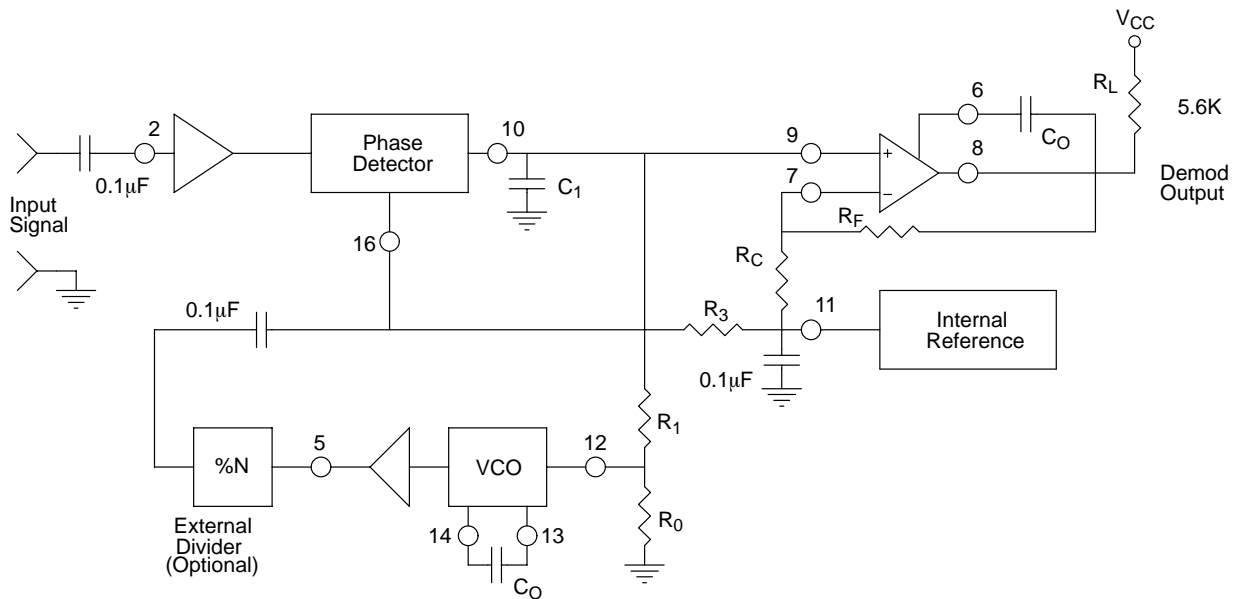
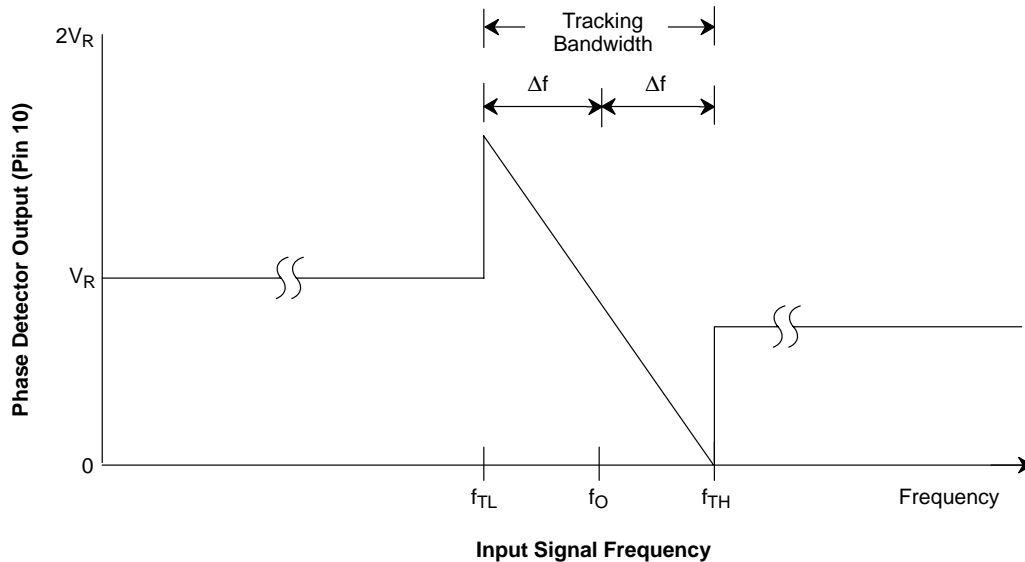
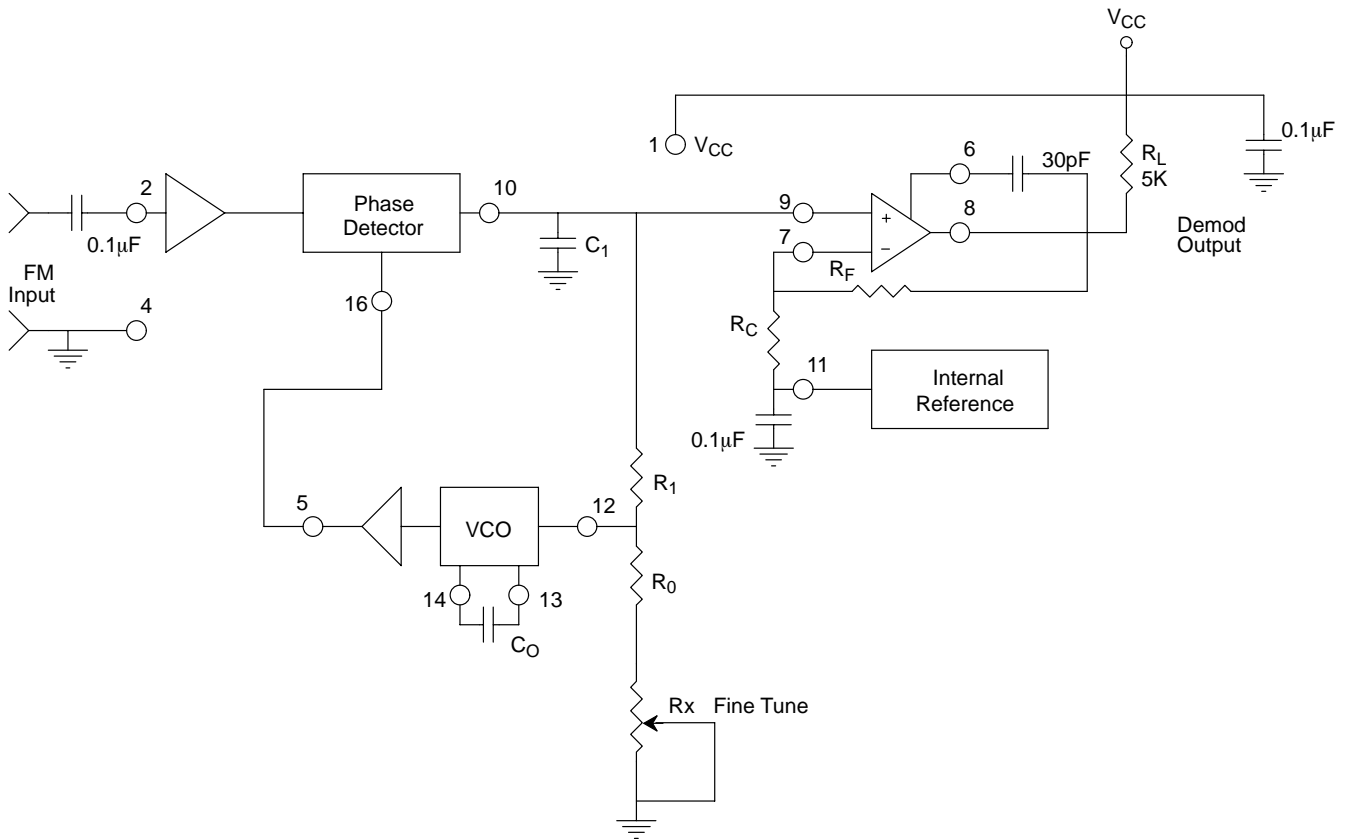

Figure 3. Generalized Circuit Connection for FM Detection, Signal Tracking or Frequency Synthesis
Figure 10. Phase Detector Output Voltage (Pin 10) as a Function of Input Signal Frequency
Figure 11. Circuit Connection for FM Demodulation
Test Conditions: $V_{CC} = +12V$, $T_A = +25^{\circ}C$, $R_0 = 30k\Omega$, $C_0 = 0.033\mu F$, unless otherwise specified. See *Figure 3* for component designation.
Phase Detector Output (Pin 10): This terminal provides a high-impedance output for the loop phase-detector. The PLL loop filter is formed by R_1 and C_1 connected to Pin 10 (see Figure 3). With no input signal, or with no phase-error within the PLL, the DC level at Pin 10 is very nearly equal to V_{REF} . The peak voltage swing available at the phase detector output is equal to $\pm V_{REF}$.
VCO Frequency Adjustment: VCO can be fine-tuned by connecting a potentiometer, R_X , in series with R_0 at Pin 12 (see Figure 11).
Figure 10 shows the basic frequency to voltage characteristics of XR-2212. With no input signal present, filtered phase detector output voltage is approximately equal to the internal reference voltage, V_{REF} at Pin 11. The PLL can track an input signal over its tracking bandwidth, shown in the figure. The frequencies f_{TL} and f_{TH} represent the lower and the upper edge of the tracking range, f_0 represents the VCO center frequency.
(See *Figure 3* and *Figure 10* for definition of components.)
7. VCO Conversion Gain, K_0 : (K_0 is the amount of change in VCO frequency, per unit of DC voltage change at Pin 10. It is the reciprocal of the slope of conversion characteristics shown in *Figure 10*).
XR-2212 can be used as a linear FM demodulator for both narrow-band and wide-band FM signals. The generalized circuit connection for this application is shown in *Figure 11*, where the VCO output (Pin 5) is directly connected to the phase detector input (Pin 16). The demodulated signal is obtained at phase detector output (Pin 10). In the circuit connection of *Figure 10*, the op amp section of XR-2212 is used as a buffer amplifier to provide both additional voltage amplification as well as current drive capability. Thus, the demodulated output signal available at the op amp output (Pin 8) is fully buffered from the rest of the circuit.
In the circuit of *Figure 11*, R_0C_0 set the VCO center frequency, R_1 sets the tracking bandwidth, C_1 sets the low-pass filter time constant. Op amp feedback resistors R_F and R_C set the voltage gain of the amplifier section.
The circuit of *Figure 11* can be tailored to any FM demodulation application by a choice of the external components R₀, R₁, R_C, R_F, C₀ and C₁. For a given FM center frequency and frequency deviation, the choice of these components can be calculated as follows, using the design equations and definitions given on page 10.
Note: All calculated component values except R_0 can be rounded-off to the nearest standard value, and R_0 can be varied to fine-tune center frequency, through a series potentiometer, R_X , (See Figure 11).
The total tracking range of the PLL (see Figure 10), should be chosen to accommodate the lowest and the highest frequency, f_{max} and f_{min} , to be synthesized. A recommended choice for most applications is to choose a tracking half-bandwidth Δf , such that:
- d) Calculate R_1 to set tracking bandwidth (see *Figure 10* and design equation 5). If a range of output frequencies are desired, set R_1 to get: